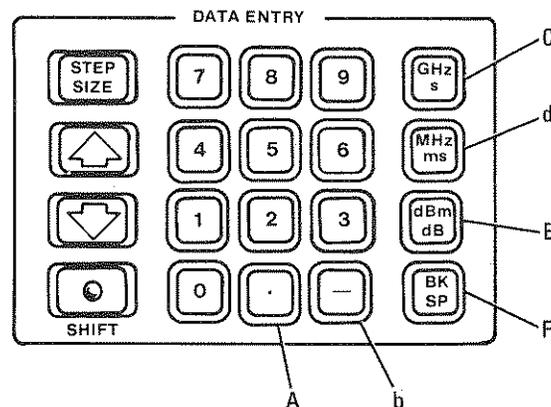

Figure 5-9. Front Panel Hexadecimal Entry Keys
4. Make DATA ENTRY of 2C80. (Refer to HEX entry key diagram in Figure 5-9 for location of "C".)